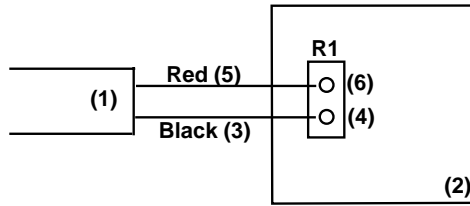

Fig. 6. One line control.
(1) 1 Line *Level Logic* Control (valve rotation, the simplest control):
- (b) Wiring the *interface cable* (1) to the instrument (2) with 1 *line control* (see Figure 6):
- (i) Connect the black wire (3) to the *ground terminal* (4) of the instrument event relay R1.
- (ii) Connect the red wire (5) to the control line (6) *terminal* of the instrument event relay R1.
- (iii) See the Operation section (VI) for typical commands and examples of programming with this type of control.
(1) 1 Line *Pulse Logic* Control (valve rotation, the simplest control):
- (b) Wiring the *interface cable* (1) to the instrument (2) with 1 *line control* is exactly the same as in *level logic* control (see Figure 6).
- (c) Wiring the *interface cable* to the instrument with 1 *line control* (see Figure 6).
(1) 1 Line *Pulse Logic* Control (valve rotation only, the simplest control):
- (c) Wiring the *interface cable* to the instrument with 1 *line control* is exactly the same as in *level logic* control (see Figure 6).